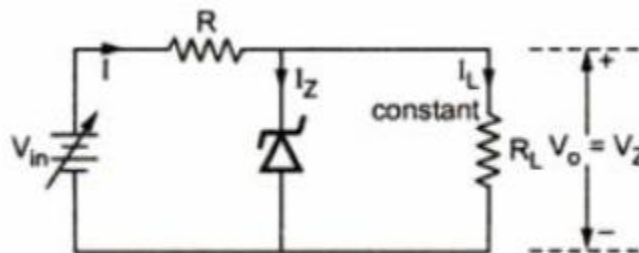

Fig. 5.12 Varying Input condition
- The Fig. 5.12 shows a zener regulator R under varying input voltage condition.